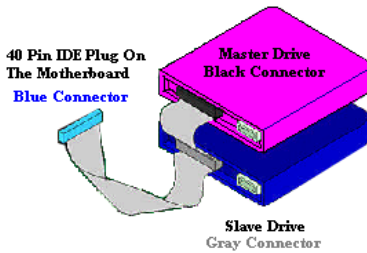

Figure 2-10. How to connect an ATA/100 Cable to the Motherboard
- Attach the BLACK connector to the mating plug on the master hard drive. Attach the GREY connector to the mating plug on the slave drive (secondary hard drive, CD ROM, or tape drive). Please refer to figure 2-10.